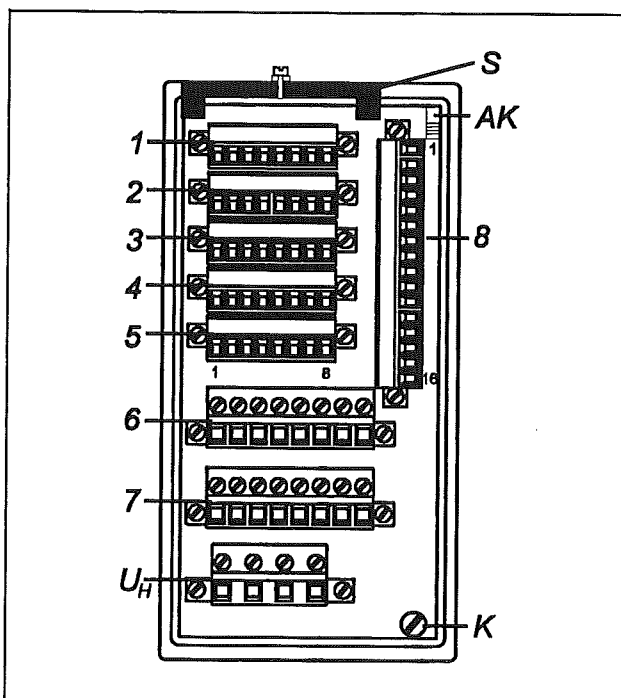

Fig. 22 Rear view (here: Prottronic 500/550)
3. Insert or remove module (for slots see fig. 22 next page). When inserting the module, it must be ensured that it is carefully slid in up to the limit.